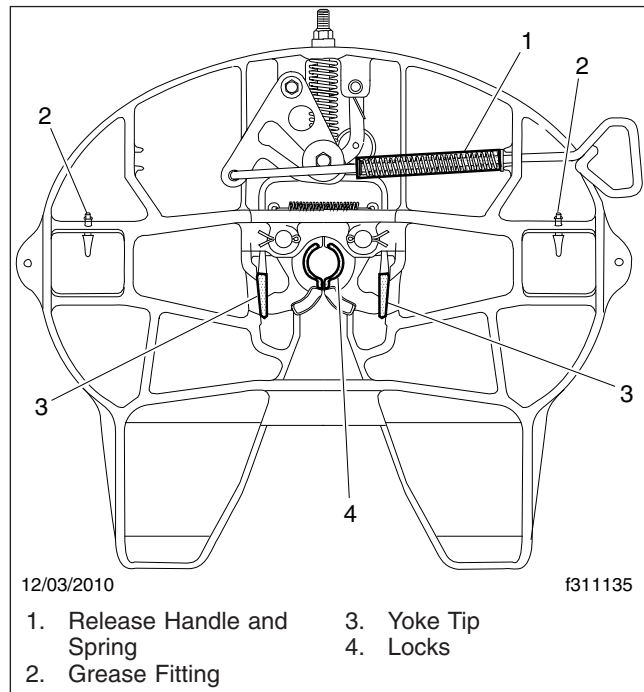

Fig. 12, Holland FW35 Fifth Wheel, Grease Lubrication
3. Grease the yoke tips, locks, and the release handle and spring; see Fig. 12. Grease the mounting bracket supports through the grease fittings. A "low temp" grade grease rated for -30°F (-34°C) or lower such as Cato Oil and Grease #5213, Craftsman Chemical Co. #LTF 2, Mystic LP-200, or equivalent is recommended.